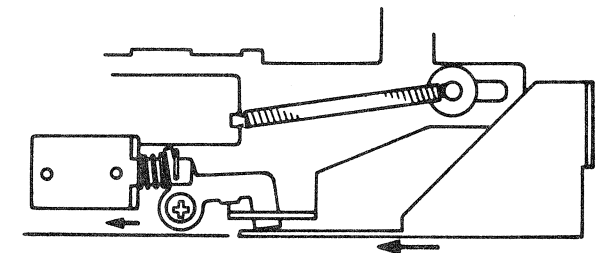

Fig.52
2. It determines the operation time of pad solenoid (SL203) at reverse projection. The middle tension roller, pad roller and brake roller must be held at projection STOP position at reverse projection. Since these rollers operate as the reverse lever shifts, the pulse circuit activates the pad solenoid ① to prevent the reverse lever ② from moving during the time the end of link (1) ③ shifts from [A] to [B] as shown in Fig. 52. It shall be noted here that 24 V is applied to the solenoid with rated voltage of 12 V in order that the pad solenoid might activate more surely. Accordingly, voltage is applied only for a short time (1 pulse time = 1.5 ~ 2 sec.) to prevent the solenoid from getting heated up. Refer to "Reverse Projection Mechanism in II-1-3" on page 23 for the functions of links.